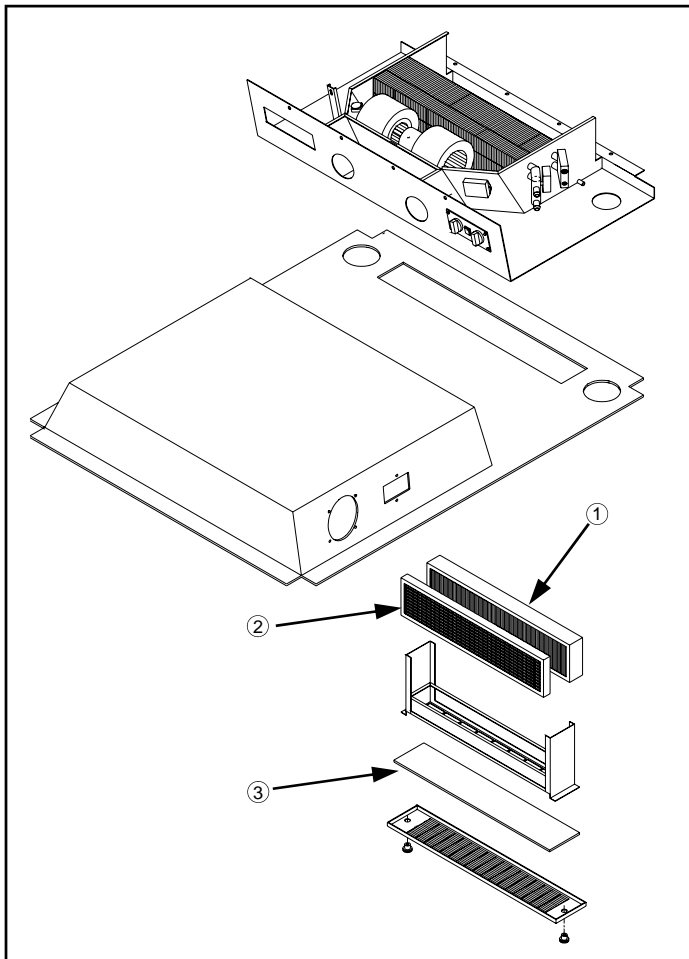

FIG 8.23
PAPER FILTER - (fig. 8.23, item 1) The paper filter should be cleaned once a year, or more often if necessary. Remove the paper element and gently tap it against a flat surface. Direct low
CHARCOAL FILTER - (fig. 8.23, item 2) Remove and replace at the first sign of chemical odor entering the cab.
RECIRCULATING FILTER - (fig. 8.23, item 3) The recirculating filter may be cleaned with soap and water. Replace if it becomes worn.